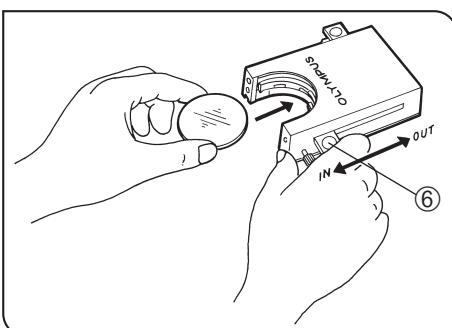

Fig. 17
#### Using the Filter Cassette (Figs. 17 to 20)
2. Slide the lever ⑥ to the IN position. Make sure that it clicks securely into place. (Fig. 17)
3. Holding the lever in the position shown in Fig. 17, put the filter into the cassette by inserting it in the direction indicated by the arrow.